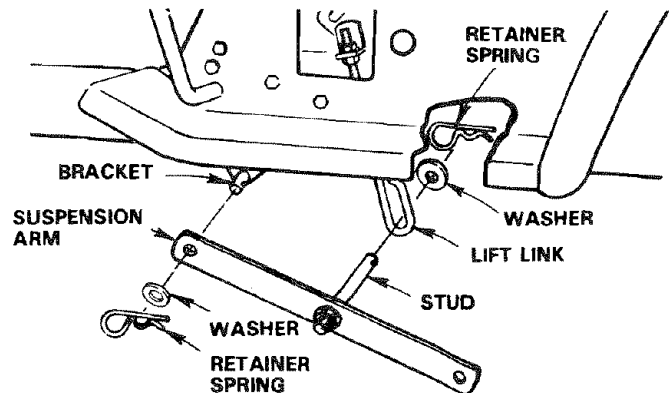

FIGURE 8
- Slide studs through lift links on both sides of tractor (Fig. 8). Retain with washers and retainer springs found in bag of parts.
- Place the suspension arms on brackets on both sides of the frame (Fig. 8). Retain with washers and retainer springs found in bag of parts.
**BEFORE DRIVING THE TRACTOR, INSTALL MOWER OR REMOVE FRONT MOWER SUSPENSION ARM (FIG. 8).**